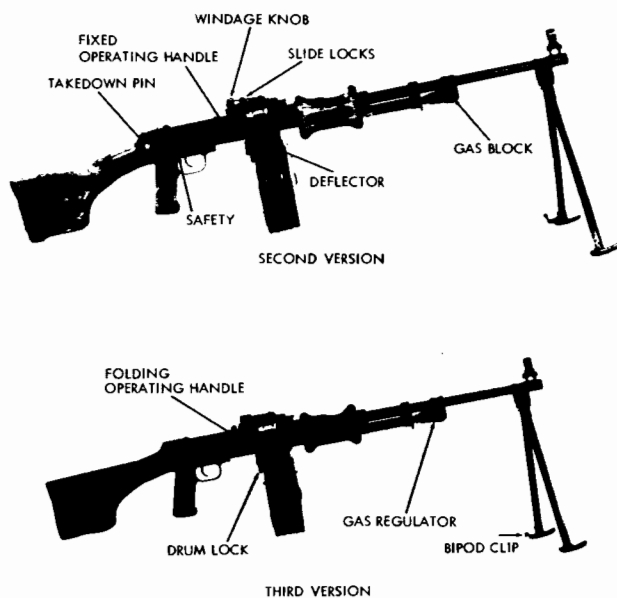

Figure 66. 7.62-mm Degtyarev squad light machinegun (RPD).
- Third version: As for second version, but has dust covers on feed mechanism and has folding, nonreciprocating operating handle (fig. 66).
b. If the gun is a ChiCom Type 56-1, press the catch on the dust cover and swing the cover down until it locks into place to serve as a magazine bracket. Once this is done, and in all other cases, slide the drum onto the bracket, from the rear, and rotate the drum lock (fig. 66) down to secure the drum in position. If necessary, open the dust covers by opening and closing the feed cover. Then insert the lead tab of the
Caution: The machinegun is now ready to fire! If the gun is not to be fired immediately, apply the safety (fig. 66) by rotating it forward.
c. Open the bipod by unsnapping the bipod clip (fig. 66) and swing the bipod legs forward until they spring open and lock in place. Fold the bipod by squeezing the legs together; swing them rearward and secure them with the bipod clip. (Note: Some RPD's do not have a bipod clip.)
f. To unload or clear, pull the operating handle rearward, apply the safety by rotating it forward, push the cover catch forward, and open the feed cover. Draw the belt to the left and feed it back into the drum so that only the feed tab protrudes. Inspect to be sure that no cartridges remain in the receiver, chamber, or feedway, and then close the cover. Turn the drum lock (fig. 66) and slide the drum off to the rear. Rotate the safety rearward, hold the operating handle to ease the bolt and the slide forward, and press the trigger. Close all covers; if a Type 56-1, press the latch to release the drum bracket and swing it up to cover the entrance to the feedway.
- b. Press out the takedown pin at the rear of the receiver (fig. 66) and slide the butt and trigger group off to the rear.